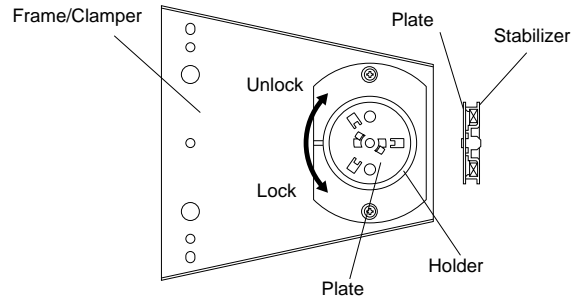

**Fig. 7**
b. Remove 4 screws ( ⑫ ) and then remove the PU Mechanism Unit as shown in Fig. 7.